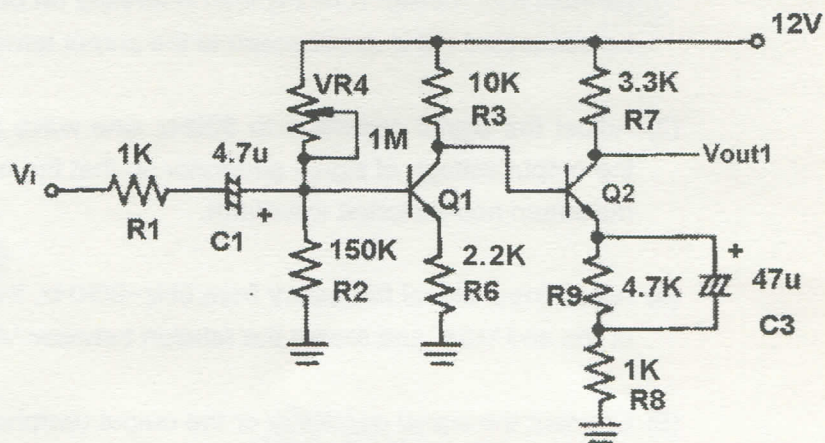

Fig 9-2 (b)
- (1) Insert the short-circuit clip by referring to Fig 9-2 (a) and the short-circuit clip arrangement diagram 23005-block a.2.